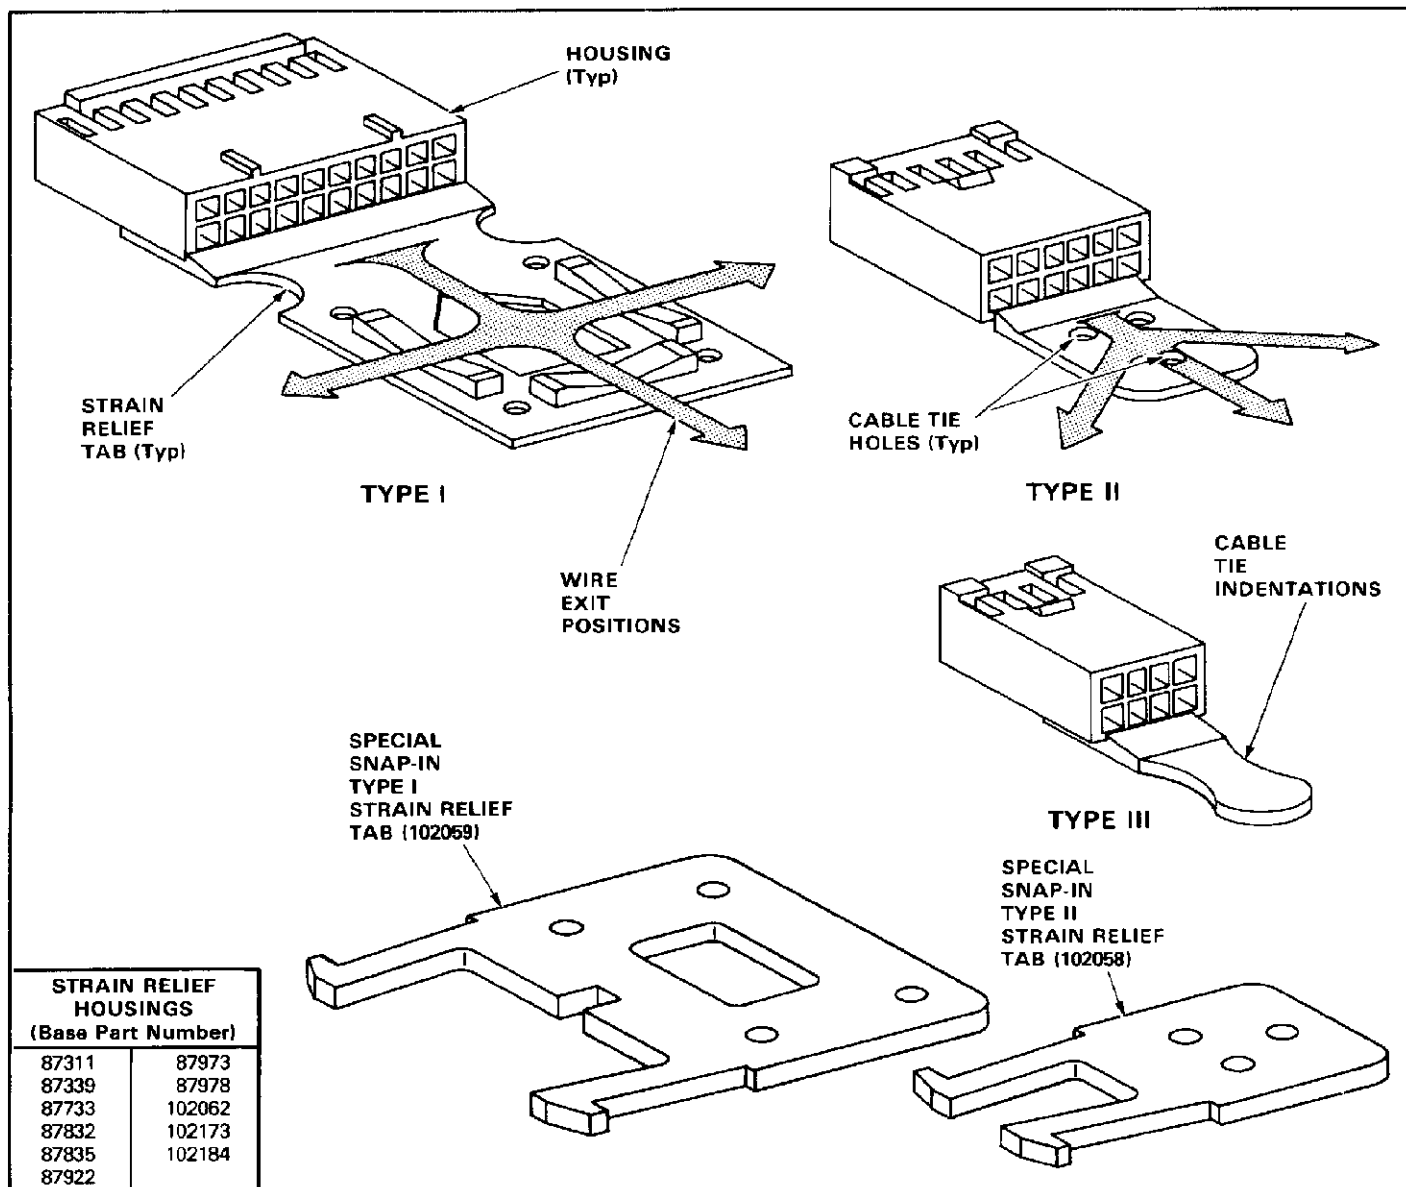

Fig. 1
The AMPMODU MOD IV receptacle strain relief housings listed in Figure 1 are designed to provide strain relief for the wires and a handle for unmating the connector.
2. DESCRIPTION (see Figure 1)
Special snap-in Type I and Type II strain relief tabs are available for .125 x .250-in. MOD IV housings (see Figure 1).